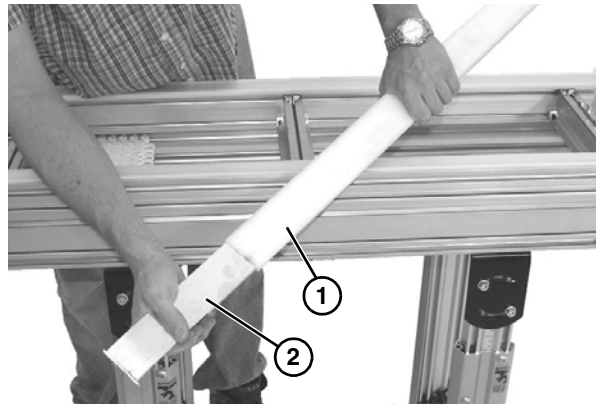

Figure 22
5. Remove the center wear strip (**Figure 22, item 1**) from the center frame channel (**Figure 22, item 2**).